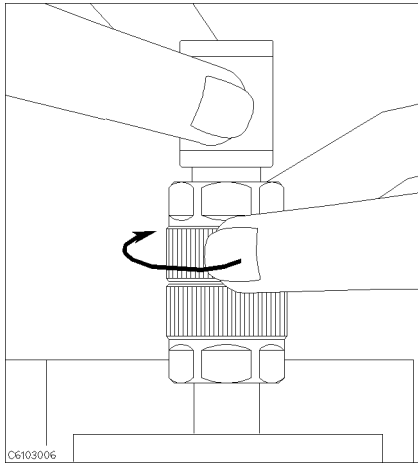

Figure 3-11.
14. Connect the 50 Ω termination on the APC-7[®] connector as shown in Figure 3-11.